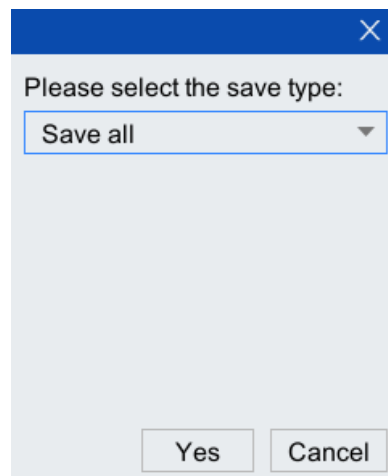

Figure 10-22 Save type prompt interface
Step6.Click <Save> under the interface, the interface shown in Figure 10-22 will pop up, and select "Save All" in [Please select the type of saving]. Click <Yes>.